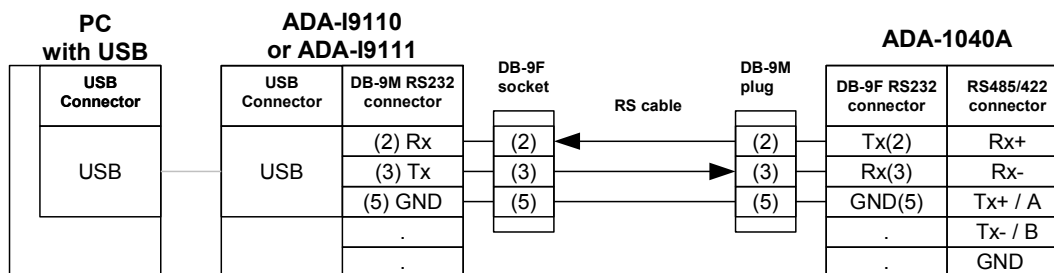

Fig. 5. ADA-1040A connection to PC by the use of USB to RS232 converter ADA-I9110/ADA-I9111
- USB port of computer, should have additional converter USB to RS232 (ADA-I9110 or ADA-I9111), which connect to RS232 port of ADA-1040A, like on the Fig.5.